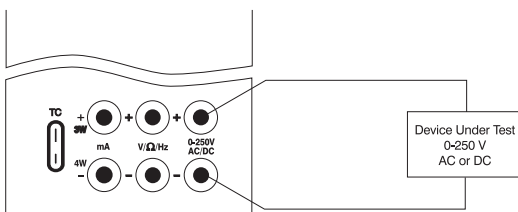

Figure 1.
2. Connect the device to be measured as shown in Figure 1.
**! WARNING !** When measuring high voltage be sure to use proper connections as shown in Figure 1. Failure to do so will cause serious damage to the calibrator.